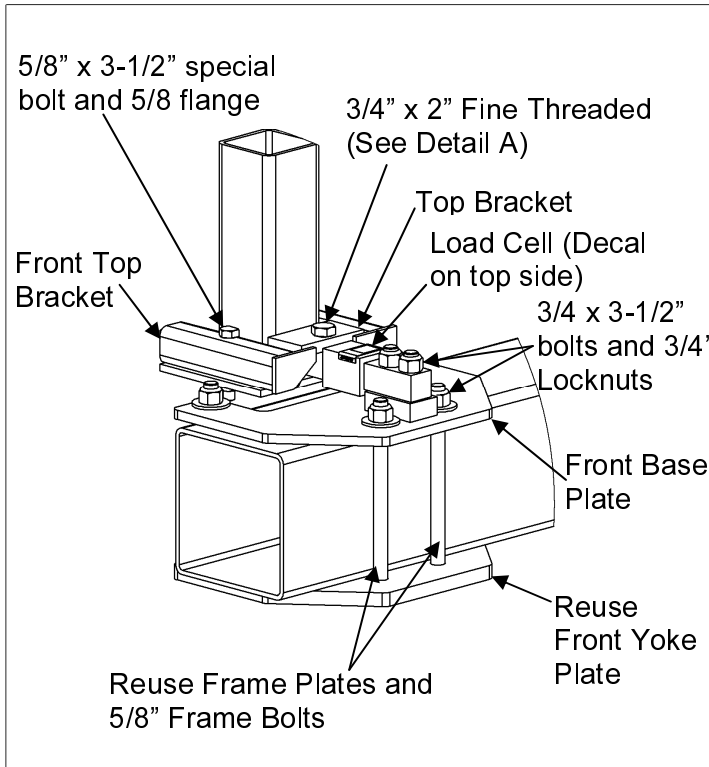
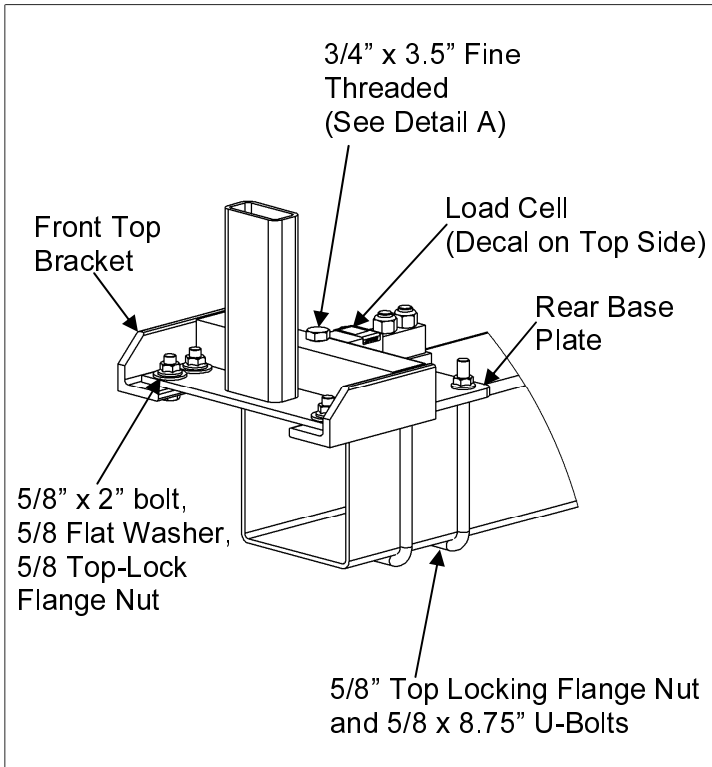

Figure 2
Figure 3
Use Figures 2 and 3 for steps 9 - 13
9. Install the front top bracket by using the 5/8 x 3 1/2" special bolts. The cropped bolt edge is installed next to the 4 x 4 tubing and from the top (see Figure 2). Install the front top bracket by using 5/8 x 2" bolt and washer, flange nut (see Figure 3).
10. Assemble load cell to the front base plate by using 3/4 x 3 1/2 in. bolts and locknut. Do not tighten bolts completely. You may have to slide load cell while aligning base and top brackets. **TOP DECAL NEEDS TO BE ON TOP OF LOAD CELL!** (See Figure 2 or 3)
11. Install front base plate weldment to the main frame with the yoke plate on the bottom. Reuse the original frame bolt (see Figure 2). Install front base plate weldment to the main frame with the supplied 5/8 x 8.75" U-bolts and 5/8 top lock flange nuts (see Figure 3).